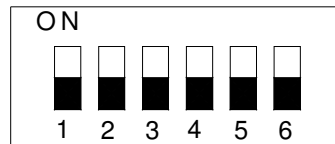

Figure 2: Dip switch (SW).
- 2.1.1 SW 1 (see: Figure 2) voltage selection. SW 1 is used to select the suitable genset's sensing input voltage (S1, S2). When sensing input is 440 VAC (380-480 V), switch the SW 1 to 'ON'. If the sensing input is 220 VAC, switch SW 1 to 'OFF' position.
- 2.1.2 SW 2 (see: Figure 2) is used to select the suitable current transformer's current input (C1, C2). If current transformer's current is 5 A, switch SW 2 to 'ON' position. If the current is 1 A, switch SW 2 to 'OFF' position.
- 2.1.3 SW 3 (see: Figure 2) is used for frequency selection. If genset's rated frequency is 60 Hz, switch SW 3 to 'ON' position. If rated frequency is 50 Hz switch SW 3 to 'OFF' position.
- 2.1.4 If genset power is less than 90 kW switch SW 4, SW 5 and SW 6 to 'OFF' position (see: Figure 2). If the power is 90-200 kW, switch SW 4 to 'ON' position. SW 5 and SW 6 remain in 'OFF' position. If the power is more than 200 kW, switch SW 4, SW 5 and SW 6 to 'ON' position.